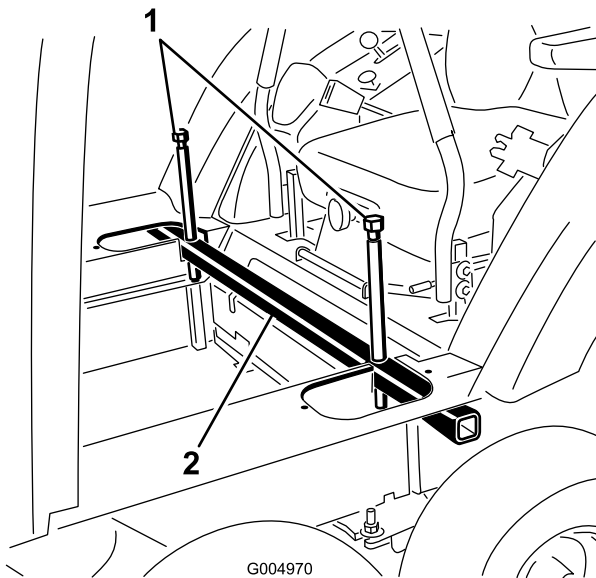

Figure 115
25. Lower the cab into position by slowly and evenly loosening the jacking bolts on each end of the jacking tube (Figure 115).